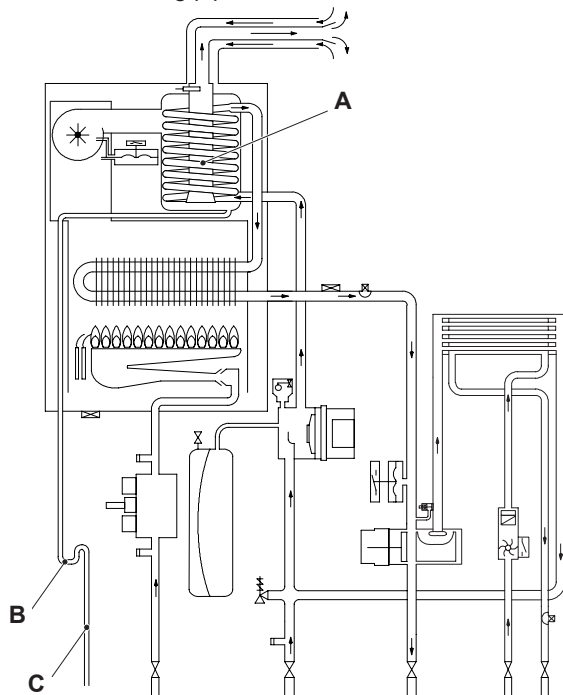
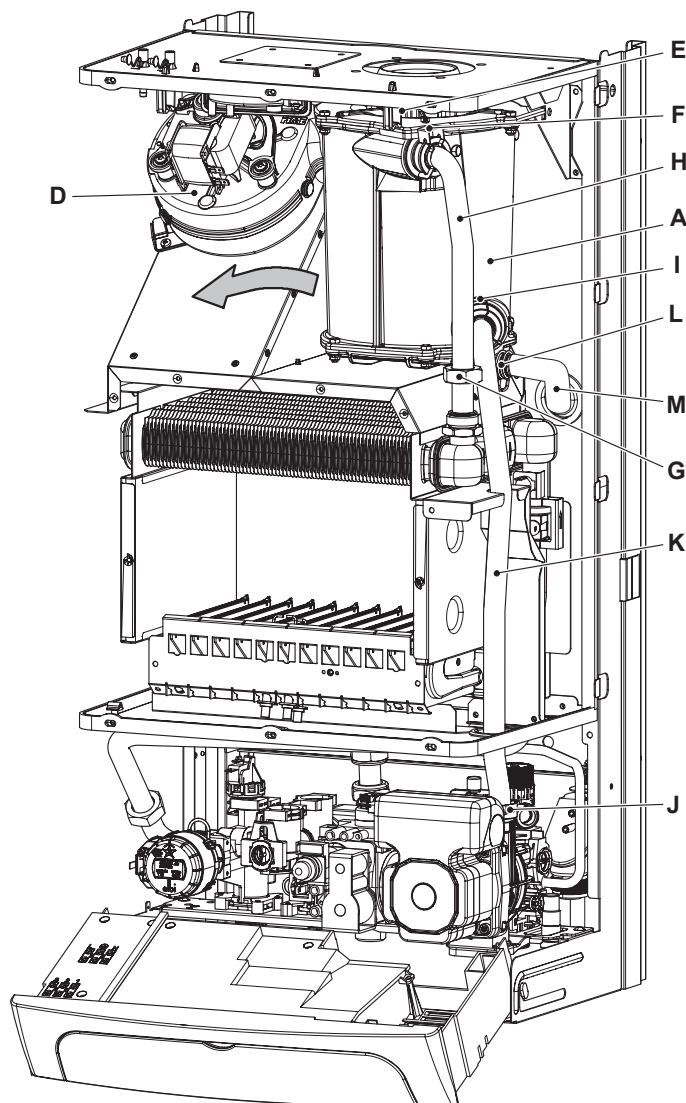

Figure 6.1
Figure 6.2
The return water flows through the condensing heat exchanger A in Figure 6.1 and Figure 6.2.
- 3 Remove the fan D in Figure 6.2 (see section "Removal of the Fan" page 36).